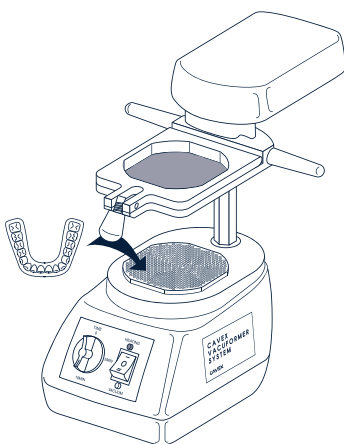

Fig. 4
4. Place the dental arch model\* on the vacuum plate (Fig. 4).